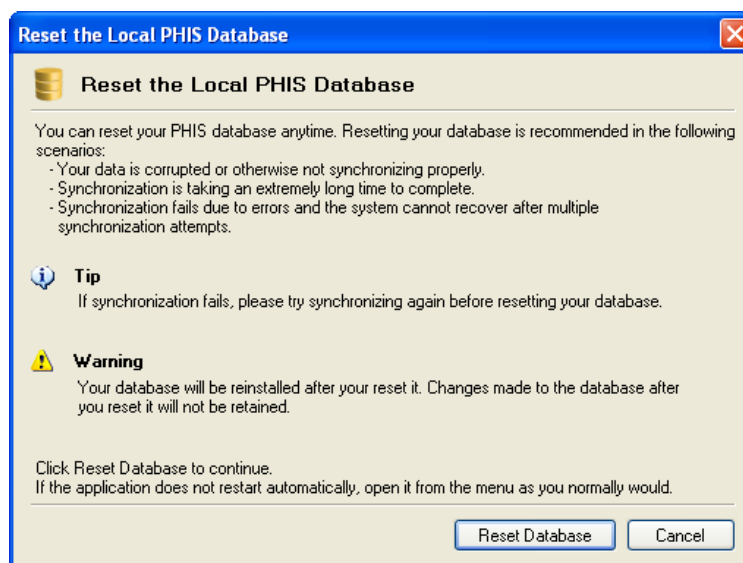

Figure 12: Reset the Local Database window
4. In the Reset the Local Database window (see Figure 12: Reset the Local Database window), read the information in the window and click **Reset Database** if you are certain you want to reset. Depending on the size of your database, the reset process could take several minutes. Do not disconnect from the FSIS Network during this process. When the process is complete, you will be able to synchronize again.